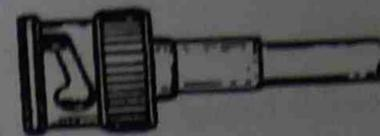

Figure 78 Finishing plug assembly
- Slide the ferrule over the braid and support sleeve, insert the connector into the crimper and crimp the ferrule down as shown in Figure 78.